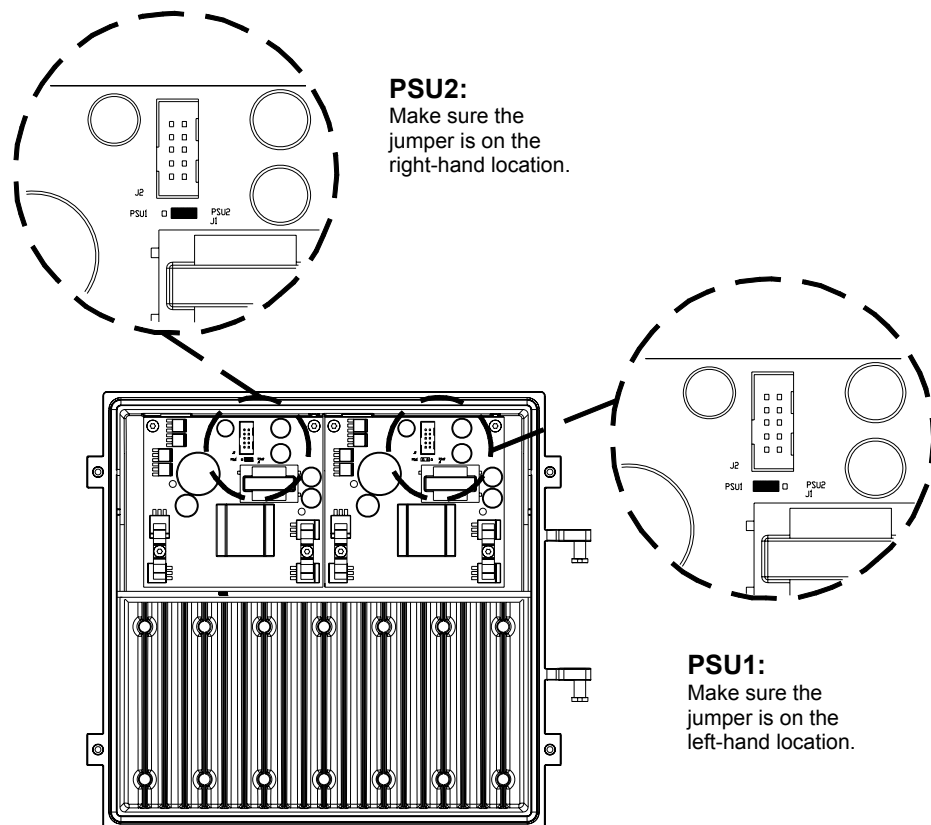

Fig. 7. Diagram illustrating the AC8000 lid with both PSUs installed.
Primary and secondary power supplies are physically identical. Their functional differences are controlled by a jumper. See fig. 7 for locations of the jumper pins. The jumper must be positioned prior to installation. The primary power supply unit must be installed into the first place (closest to the hinges). Locate the 10-pin connectors and attach the supplied ribbon cable.
- jumpers is set correctly (Fig. 7)